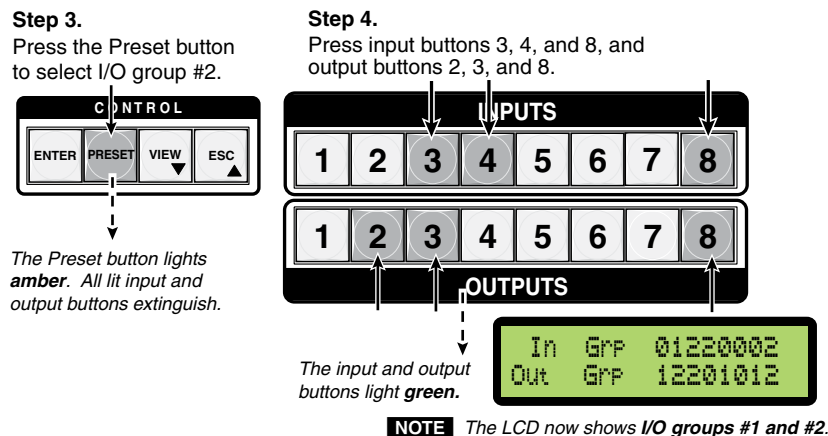

Figure 3-20 — Steps 3 and 4 for creating I/O grouping
3. To add inputs and outputs to group #2 (for example), press the Preset button (see figure 3-20). This lights amber and all input and output buttons extinguish.
4. Select input buttons 3, 4, and 8, and output buttons 2, 3, and 8 (see figure 3-20). These all light green.